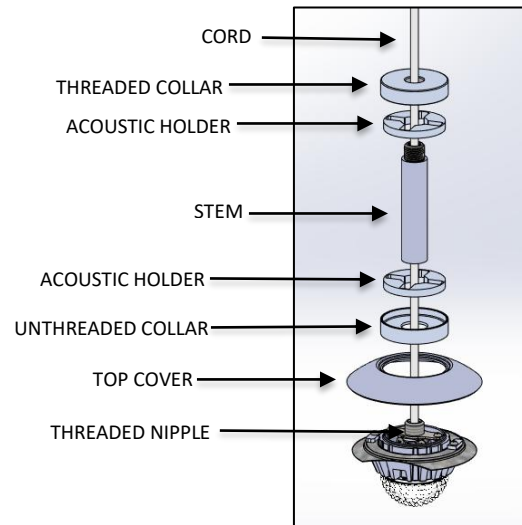

FIG. 29 ACOUSTIC PANEL HOLDER ASSEMBLY
21. Feed the cord through the ACOUSTIC PANEL HOLDER ASSEMBLY in the order shown in FIG. 29. Ensure the deeper recess of the UNTHREADED COLLAR is facing up and will hold the ACOUSTIC HOLDER. Ensure THREADED COLLAR recess is facing down.